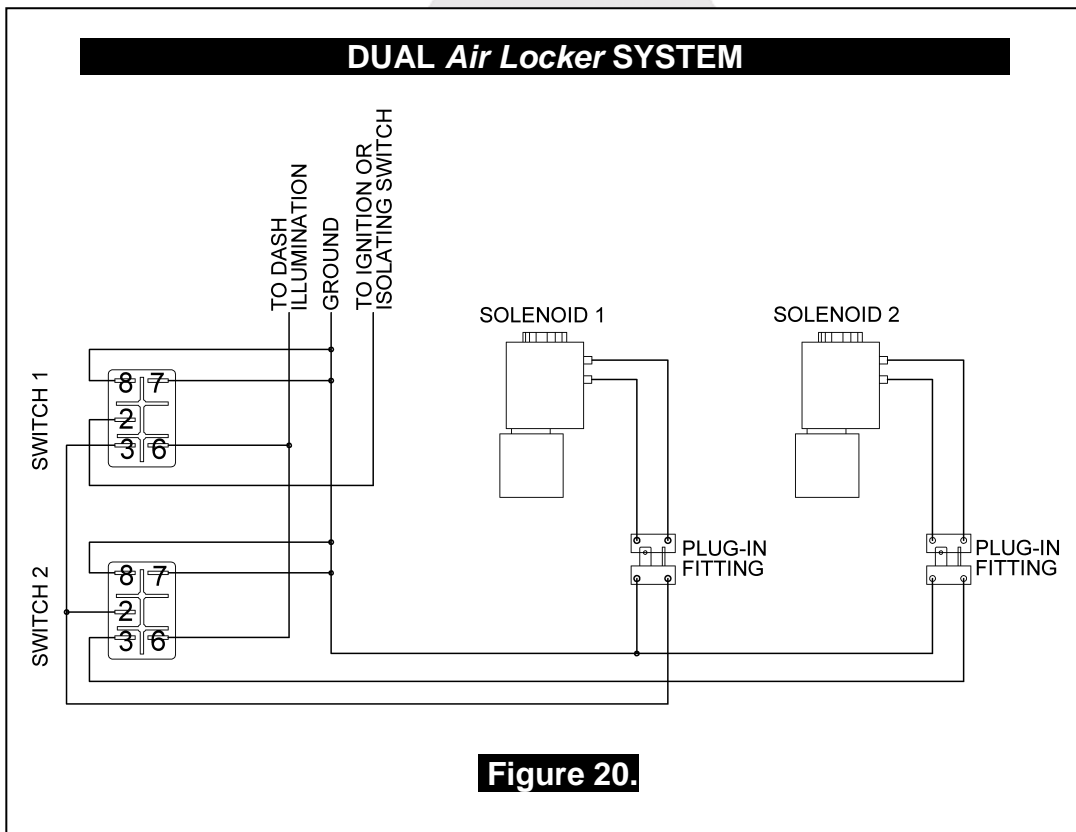

Figure 20.
- If two *Air Lockers* are to be installed in the system, ARB recommends that the switches and solenoids be wired according to figure 20. For safety reasons, this configuration allows SOLENOID 2 to be actuated only if SOLENOID 1 is already on.